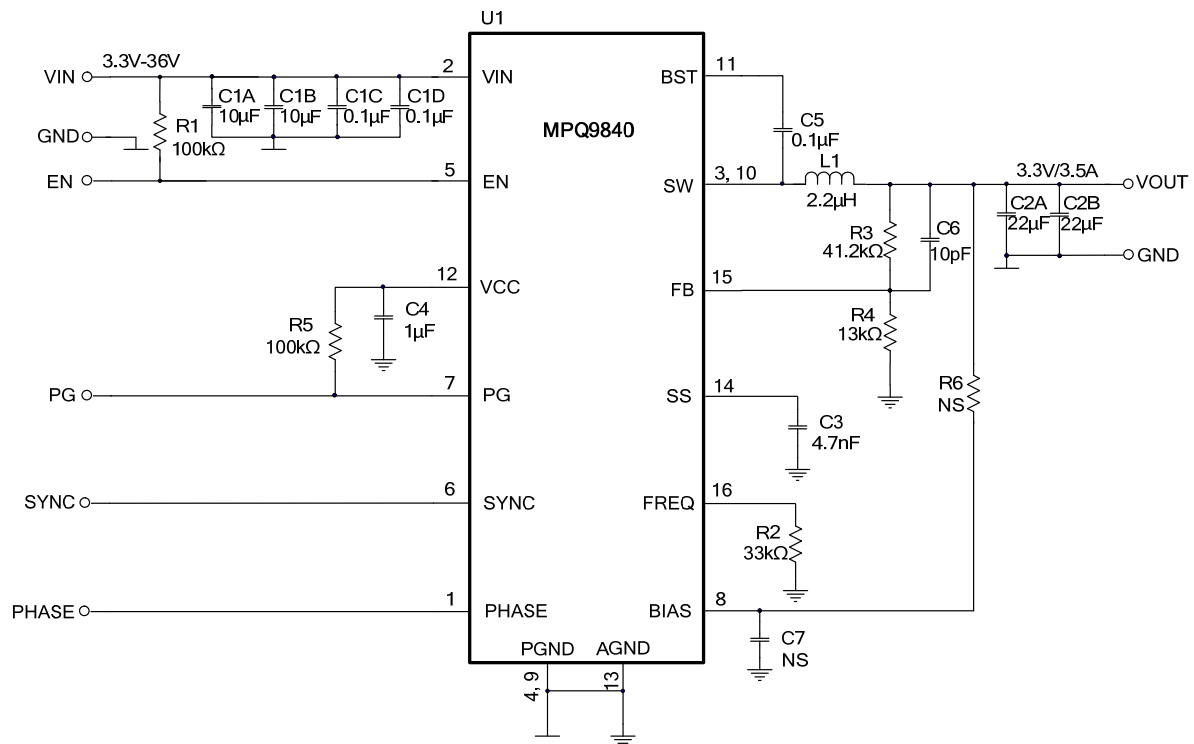

**Figure 8:  $V_{OUT} = 3.3V$ ,  $F_{sw} = 500kHz$**
8) The recommended PCB layout is based on Figure 8.